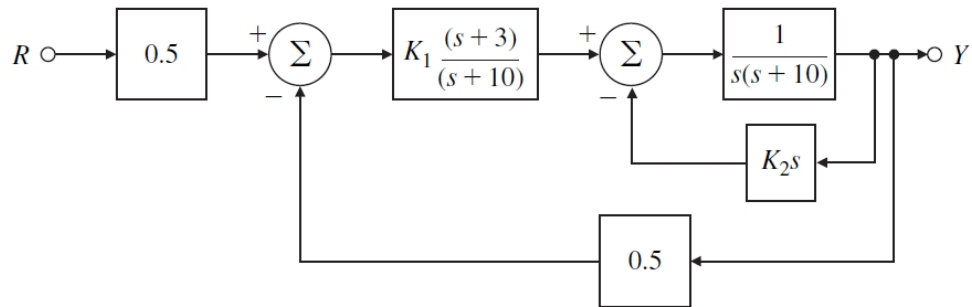

Figure 1: Block diagram of a system.
**Problem 1.** A block diagram of a control system is shown in Fig. 1.